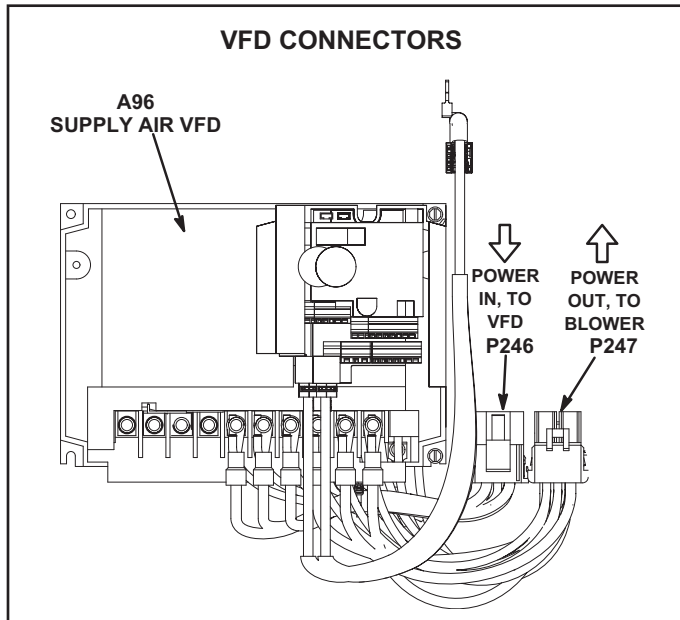

FIGURE 39
- 2 - Locate P246 and P247 connectors near the VFD. See FIGURE 39.